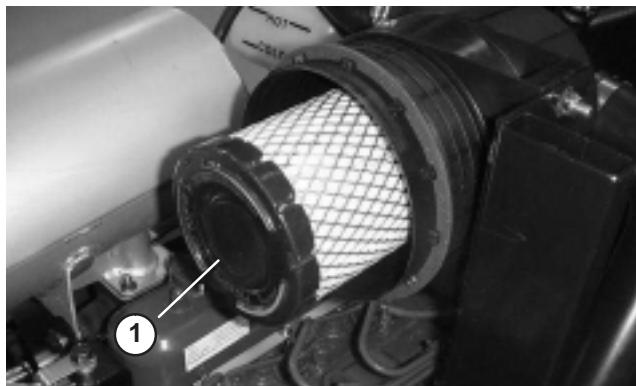

Figure 37
2. Gently slide filter (Fig. 37) out of air cleaner body to reduce the amount of dust dislodged. Avoid knocking filter against air cleaner body.